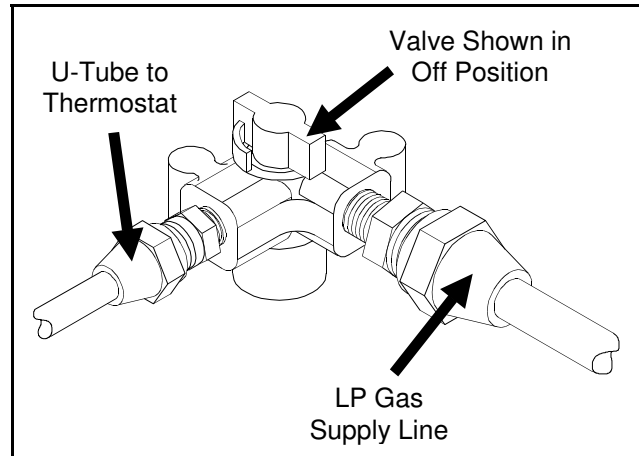

Figure 12 - Manual Shut-Off Valve
8. Turn the manual shut-off valve located on top of the refrigerator to "OFF". See Figure 12.
11. Disconnect the LP gas supply line from the refrigerator's manual shut-off valve. See Figure 12.
6. Turn the manual shut-off valve located on top of the refrigerator to "OFF". See Figure 12.
8. Disconnect the LP gas supply line from the refrigerator's manual shut-off valve. See Figure 12.